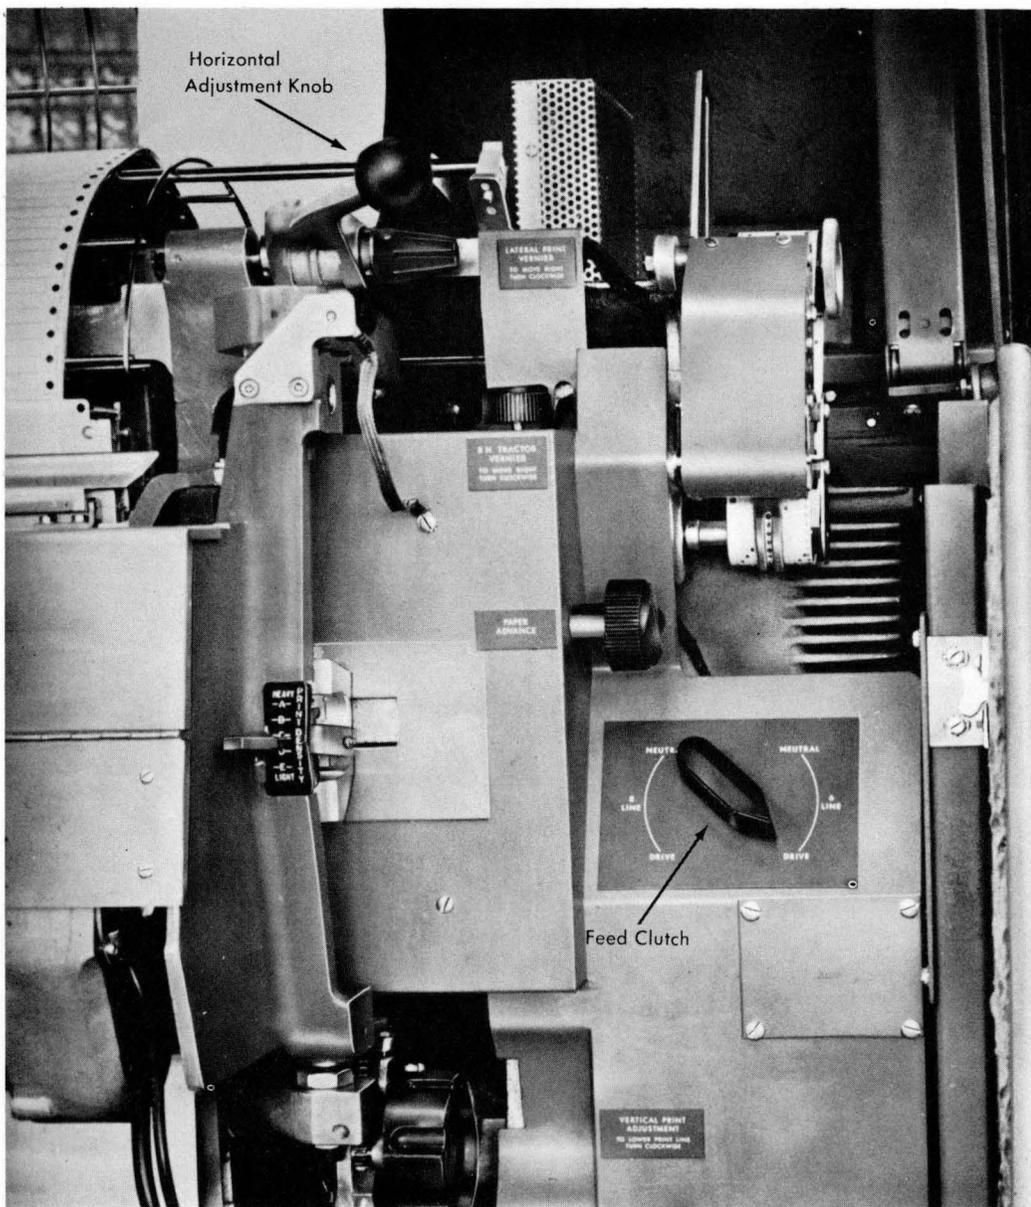

Figure 22. Carriage Controls
1403 Manual Controls (Figure 22)
This device (Figure 22) positions the printing mechanism horizontally. When the lever is raised, the mechanism unlocks, and can be positioned horizontally within its 2.4-inch travel.
2. Turn the feed clutch to a disengaged (neutral) position (Figure 22).